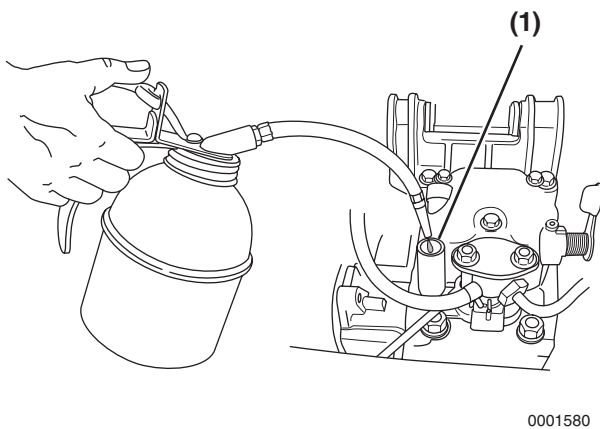

Figure 7
2. Add 2 cc of engine oil to the oil port (**Figure 7, (1)**).